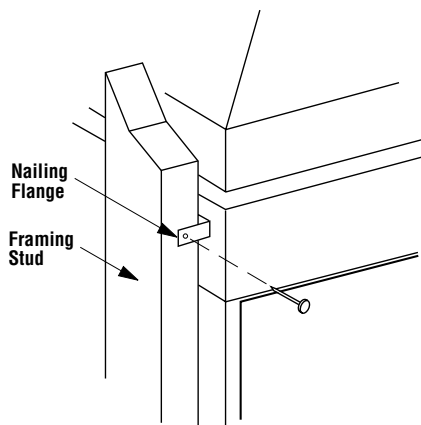

Figure 26
Step 4. The fireplace should be secured to side framing members using nailing tabs. Use 8d nails (*Figure 26*).